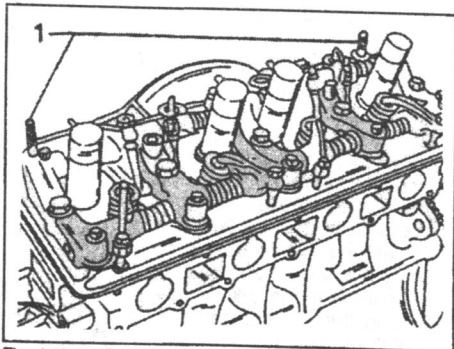

Fig. 1.42. — Cylinder head and rocker shaft assembly fitted to the engine. The two locating pins are fitted to positions (1).
- Fit the rocker shaft assembly. The cylinder head will now have the appearance shown in Fig. 1.42.